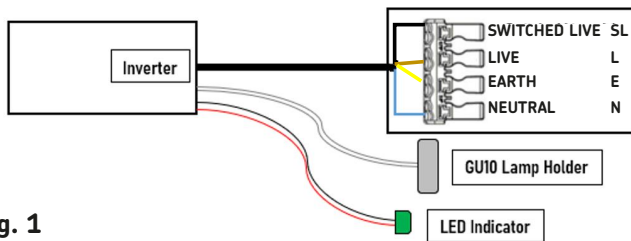

Fig. 1
- Wire for switched-maintained operation by connecting to the L – Live (Black), SL – Switched Live (Brown), E – Earth (green & yellow) and N – Neutral (Blue) or non-maintained mode by connecting to the L – Live (Black), E – Earth (green & yellow) and N – Neutral (Blue) (see Fig. 1). Remove the link between SL and L if not required. Two cables can be inserted into the push-fit terminal block in order to achieve loop-in loop-out wiring